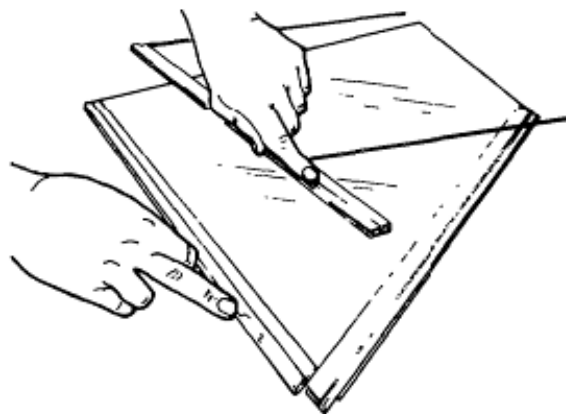

Figure 186 Outer Glass Alignment
- i.** Align the outer glass (with the hole) in the slide rail. Ensure that the window lock aperture is at the rear and facing towards the interior of the vehicle (Figure 186).